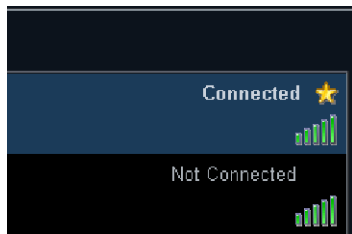

Figure 3-41 Connection Established
- 12.) Once a connection has been established you will see the status **Connected** in the **Wireless Settings** page, next to the network you have connected to. All network connections that are configured will also be displayed with a star icon, see Figure 3-41.